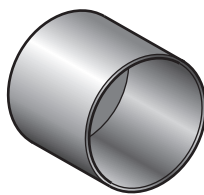

Fig. 13.4
- (c) Fig. 13.4 shows a brass cap that is fixed over the end of the mahogany bars.